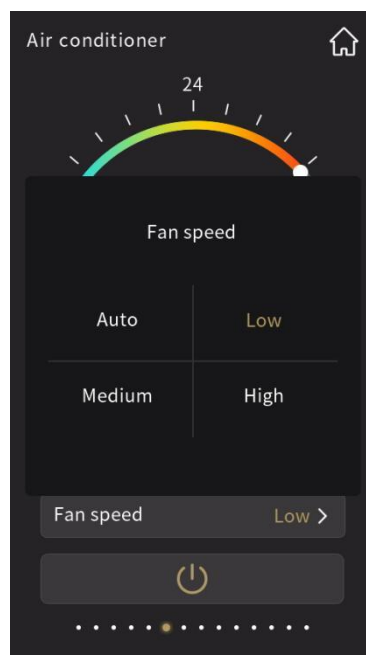

Fig.2.4.5
**⑨ Enter the fan speed setting by touching this icon, and will pop up a sub-window shown as Fig.2.4.5;**